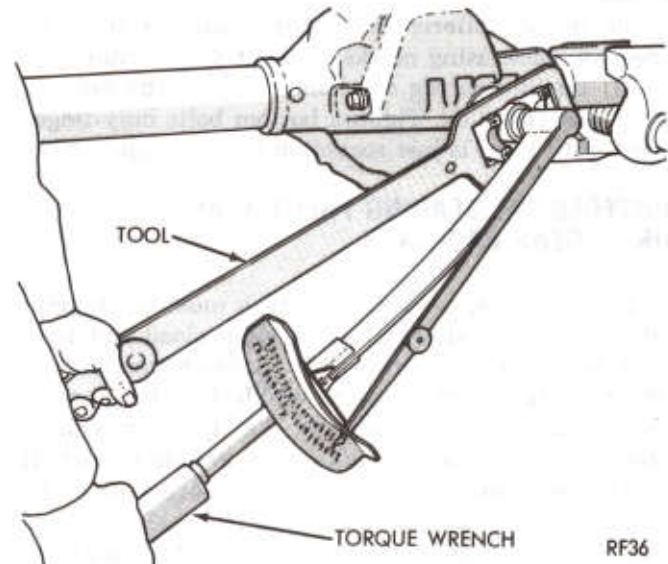
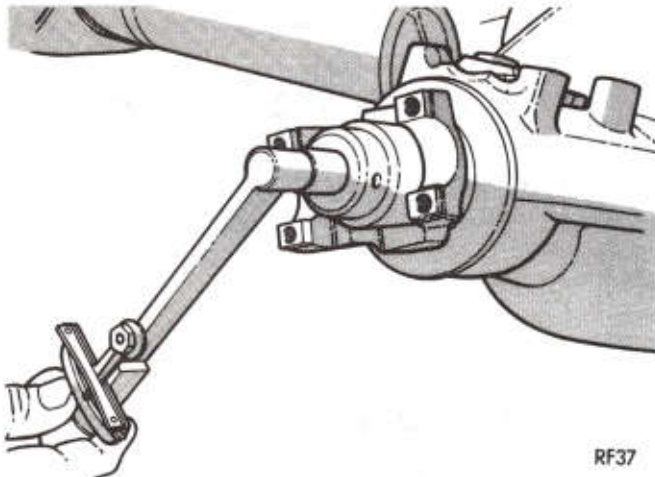

Fig. 29—Tightening Drive Pinion Nut
Fig. 30—Measuring Drive Pinion Bearing Preload
(24) While supporting pinion in carrier reinstall companion flange using tools previously described.
(25) Remove tools and install Belleville washer (convex side of washer out) and pinion nut.
(26) Hold universal joint flange with holding Tool C-3281 and tighten pinion nut to remove end play in pinion, while rotating the pinion to insure proper bearing roller seating (Fig. 29).
(27) Remove holding tool and rotate pinion several complete revolutions in both directions to permit bearing rollers to seat.
(28) Tighten pinion nut to 210 ft. lbs. (285 N·m) and measure pinion bearing preload by rotating pinion using an inch-pound torque wrench. The correct bearing preload specifications are 20 to 35 in. lbs. (2 to 4 N·m) for 8-3/8 and 9-1/4 inch axles with new bearings and the pinion nut tightened to 210 ft. lbs. (285 N·m) minimum (Fig. 30). If when rebuilding the axle and the **original** rear pinion bearing and a **new** front pinion bearing are used, the correct bearing preload is 10 in. lbs. (1 N·m) more than the reading taken at time of tear down with a minimum of 210 ft. lbs. (285